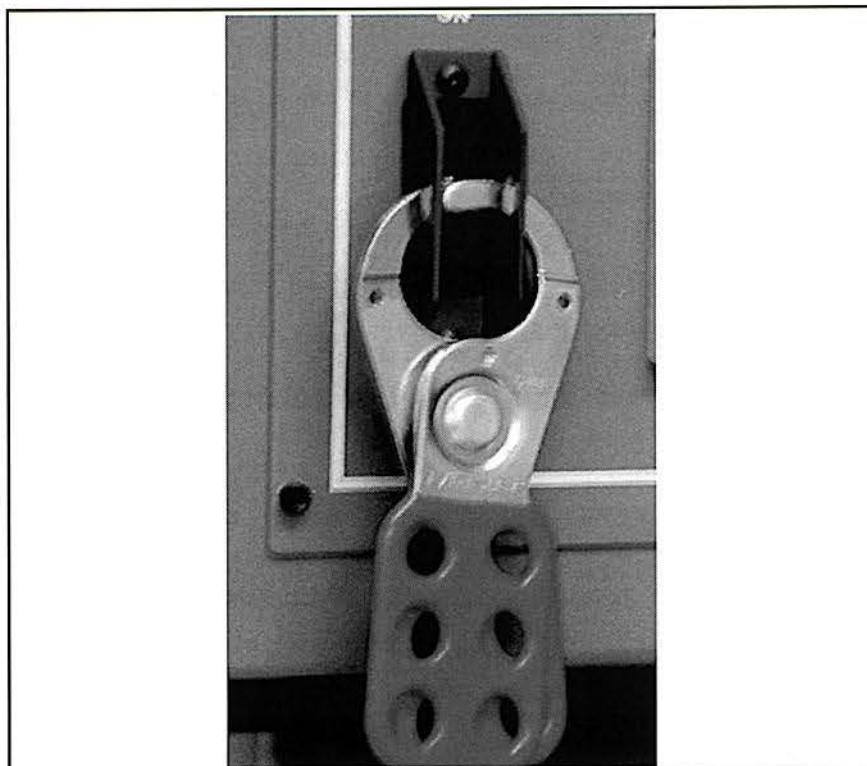

Figure 39. Lockout Device Hooked Through Hole in Brackets
- C. Open the lockout device and hook it through holes in the brackets on either side of the circuit breaker, as figure 39 shows.